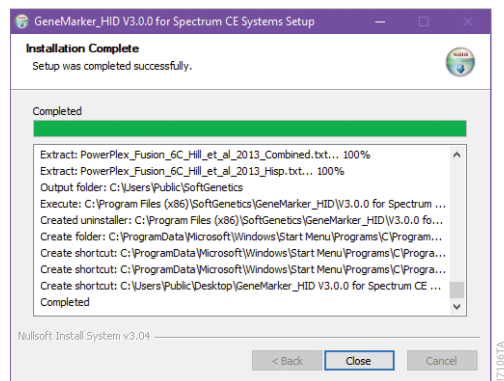

Figure 12. 'Installation Complete' window.
8. Select **Close** in the 'Installation Complete' window (Figure 12).